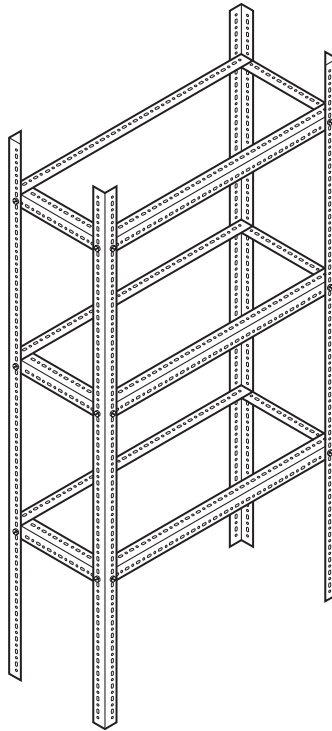

Fig. 4
- 6 Fig. 4 shows the framework for a set of shelves used to carry heavy loads in a storage unit.